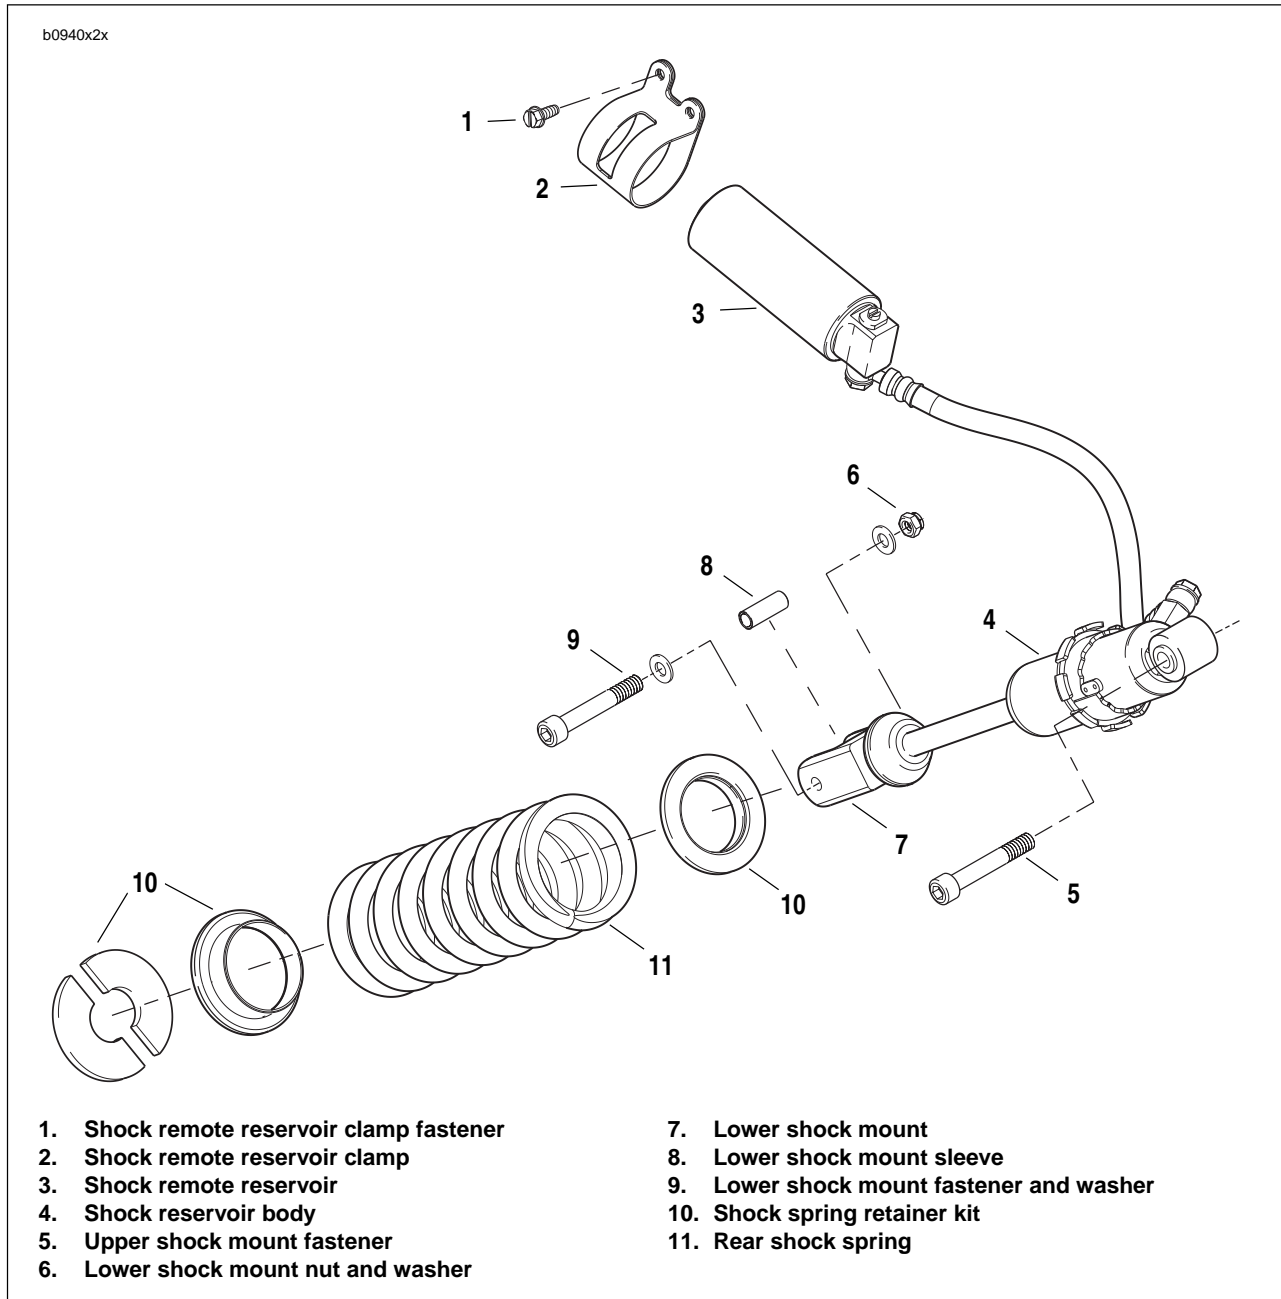

Figure 2-89. Rear Shock Absorber Assembly
2. Install pivot shaft (10) with a special 7/8 in. hex tool located in tool kit, ANTI-SEIZE and tighten to 24-26 ft-lbs (32-35 Nm).
3. Apply LOCKTITE 272 and tighten pivot shaft pinch fastener (7) to 17-19 ft-lbs (23-26 Nm).
4. See Figure 2-89. Install lower shock absorber mounting fastener (7) and spacer from shock absorber and swingarm and tighten to 15-17 ft-lbs (20.3-23 Nm).
5. See Figure 2-89. Remove upper shock (5) and lower shock mount fasteners (6 and 9) and lower shock mount sleeve (8).
6. Remove rear shock reservoir clamp (2).
1. See Figure 2-89. Install upper shock mount and tighten fastener (5) to 49-51 ft-lbs (66-69 Nm).
2. Install lower shock mount with fasteners (6, 9) and lower shock mount sleeve (8) and tighten to 15-17 ft-lbs (20.3-23 Nm).
See Figure 2-89. Verify compression dial is facing up.